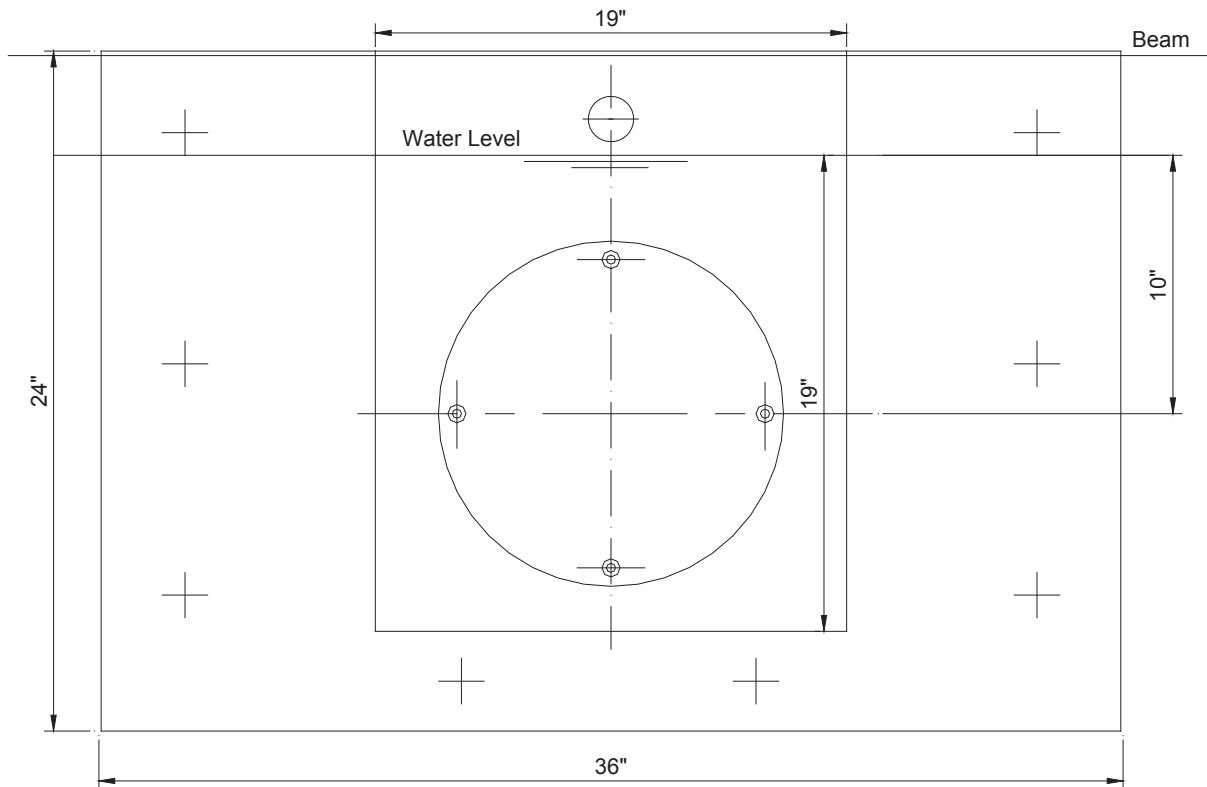

Fig. 5a
Step 2. Taking the 2' x 3' x 1/4" plywood, set its top edge even to the cap of the pool wall. In some cases a larger piece of plywood maybe needed to cover the hole completely. If plywood covers the hole, mark the water line on the plywood. From this line, layout and drill holes in plywood for the air regulator, the four **BADUJET** housing installation studs, and the eight 1/4" lag screws. NOTE: See Fig. 5a for layout measurements.